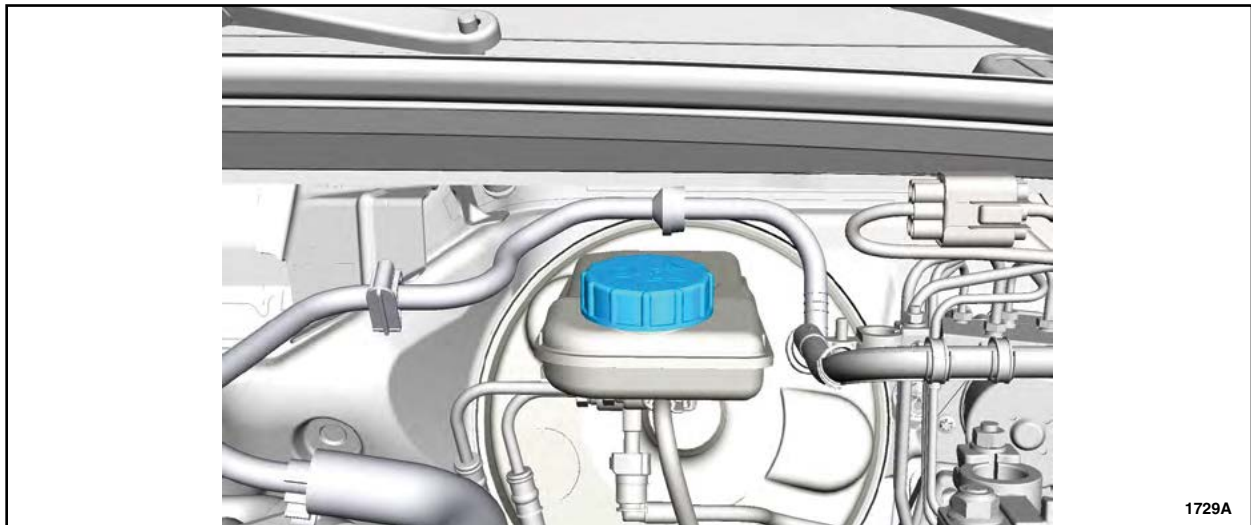

FIGURE 12
2. Remove the master cylinder reservoir cap. See Figure 12.